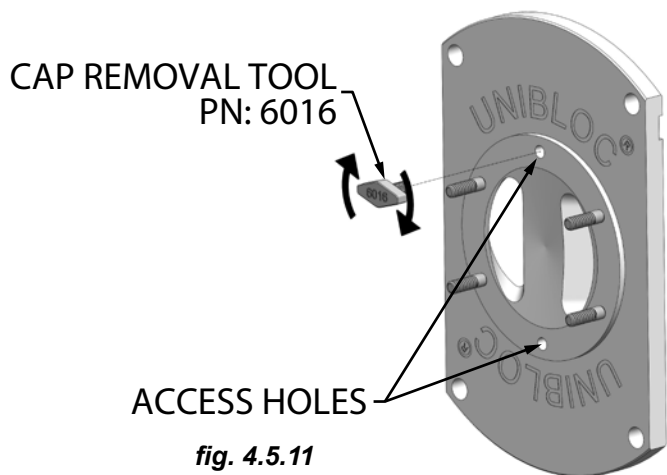
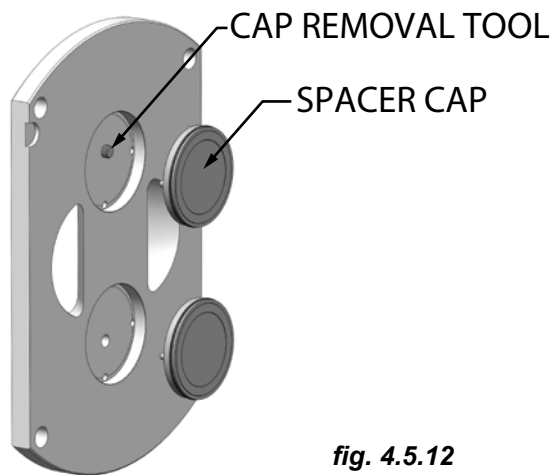

fig. 4.5.11
fig. 4.5.12
4.5.2.4.4 FoodFirst Front Cover Spacer Cap Removal- Model B Relief Valve Cover UNIBLOC 501, 551, 576 (ref. fig. 4.5.11 and 4.5.12)
The **Front Cover Spacer Caps** may be removed from the **Front Cover** by first removing the relief valve from the cover (see pg.71). Next, insert the **Cap Removal Tool** (PN: 6016) into the **Access Hole** and turn clockwise until contact with the **Spacer Cap** is made (fig. 4.5.11). Once the tool has contacted the **Spacer Cap**, continue turning the tool clockwise until the **Spacer Cap** is completely freed from the cover (fig. 4.5.12). Take care not to drop or damage the **Spacer Caps** during removal. Remove the **Cap Removal Tool** by turning it counter clockwise and repeat the removal steps on the remaining **Spacer Cap**.